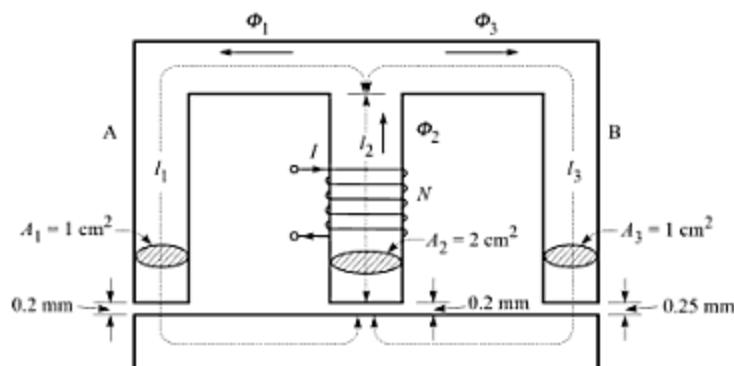

Fig. 6.17
13. The magnetic circuit of Fig. 6.17 is made of cast steel. The central limb having a length of 20 cm and cross-sectional area of  $2 \text{ cm}^2$  has a coil of 672 turns wound over it. Each of the outer paths *A* and *B* has mean length of 50 cm and cross-sectional area of  $1 \text{ cm}^2$ . The three air gaps are 0.2 mm, 0.2 mm